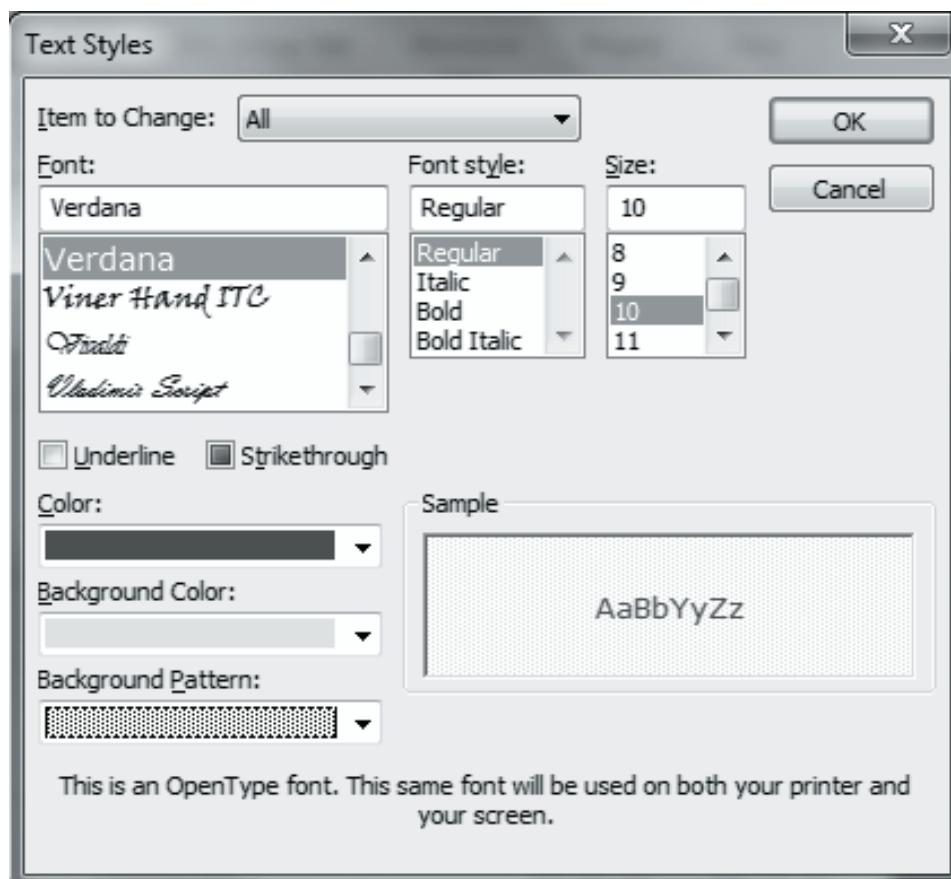

Figure 14.4: Text Styles Dialog Box
1. In the **Format** group on the **Format** tab for **Gantt Chart Tools**, click the **Text Styles** button to display the **Text Styles** dialog box. Here, one can specify various settings for text styles as shown in figure 14.4.